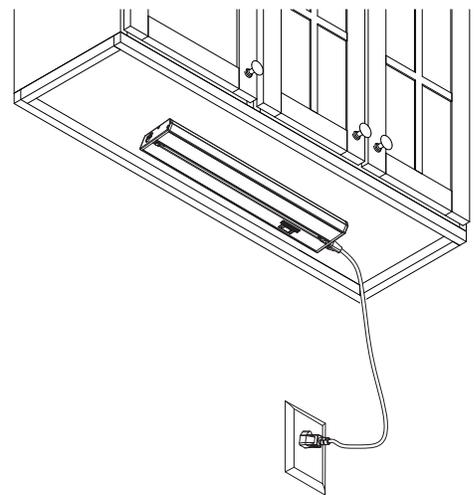

Figure 3
3. Plug the power cord into the power supply (Fig.3).